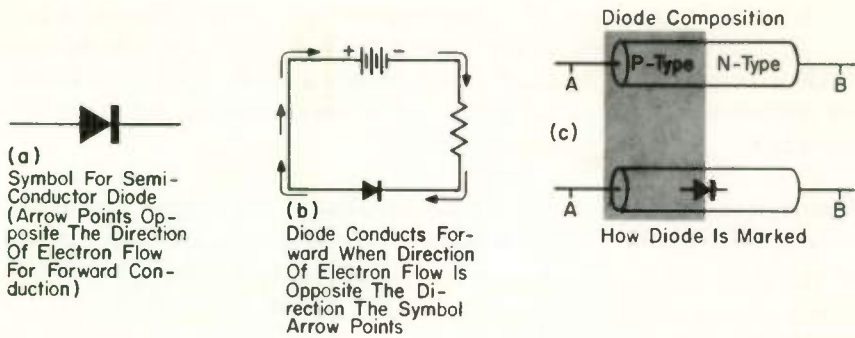

Fig. 2 The diode symbol and its use.
3 ARROW POINTS IN OPPOSITE DIRECTION TO ELECTRON FLOW . . . The schematic symbol for a semiconductor diode is shown in Fig. 2(a). The arrow points *opposite* the direction of electron flow, when the diode is forward conducting. The diode in Fig. 2 (b) conducts freely because the direction of electron flow through it is *opposite* the direction the arrow points on the diode.
To identify the forward conduction direction for the user, it is common practice to print the semiconductor diode symbol on the diode, as shown in the bottom half of Fig. 2(c). When this diode is conducting freely, the direction of electron flow is from point (16) _____ to point (17) _____.